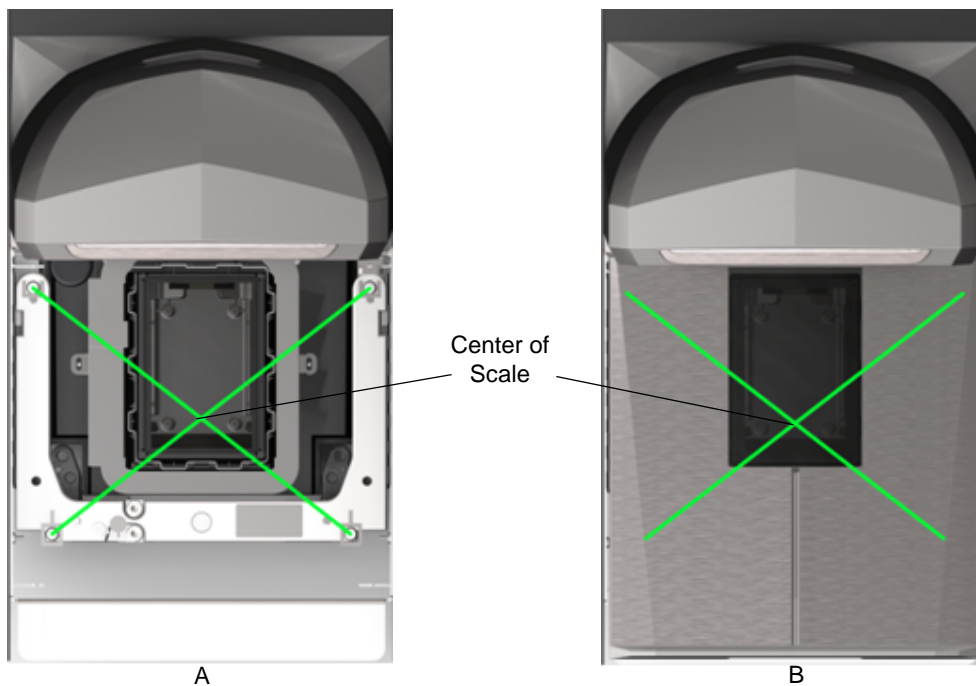

Figure 4-1 (A) Center of Scale Location, and (B) Center of Scale Location with Platter Installed
1. Depending on the units of measure programmed, place 25 lb or 11 kg on the scale. Ideally these weights should be grouped in the center of the scale (Figure 4-1).